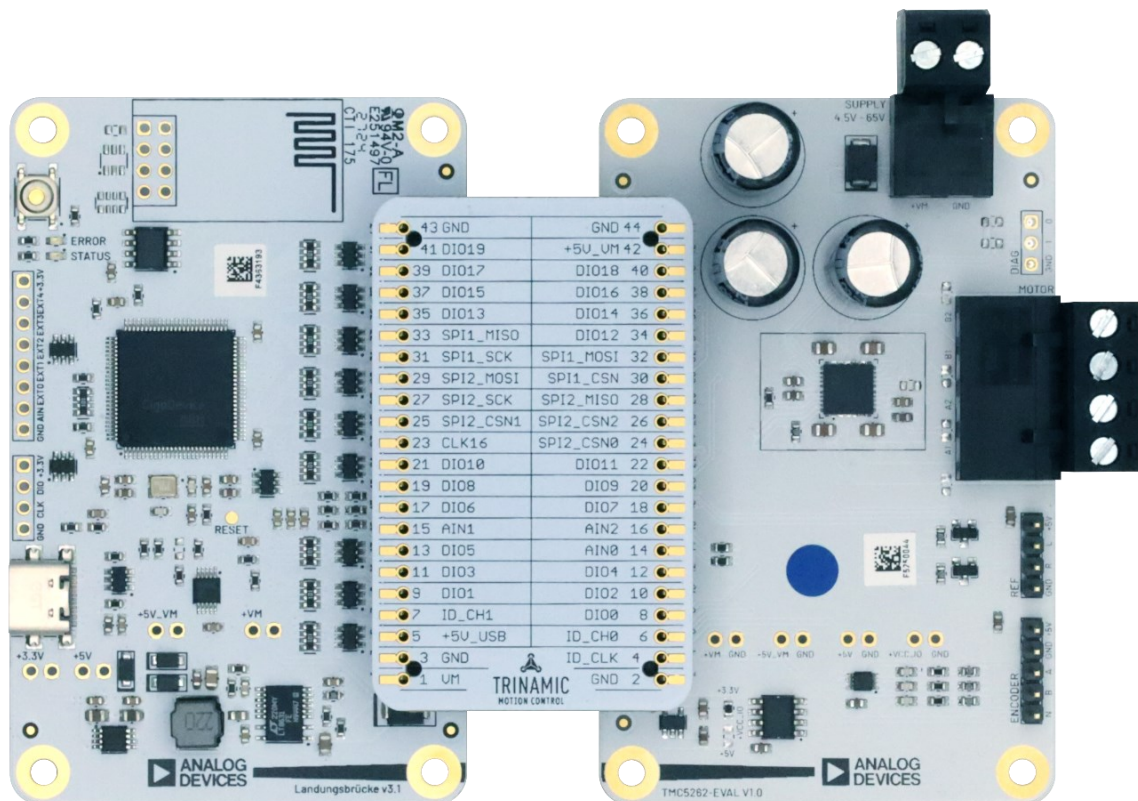

Figure 1. Assembled TMC5262-EVKIT
1. Interface the TMC5262-EVAL with the Landungsbruecke through the Eselsbruecke bridge board as shown in Figure 1. While connecting the boards, both the Landungsbruecke and the TMC5262-EVAL must not be powered. Make sure that every pin in the connector is connected to its corresponding header. The working area is nonconductive to prevent shorting of pins on the backside of the boards.